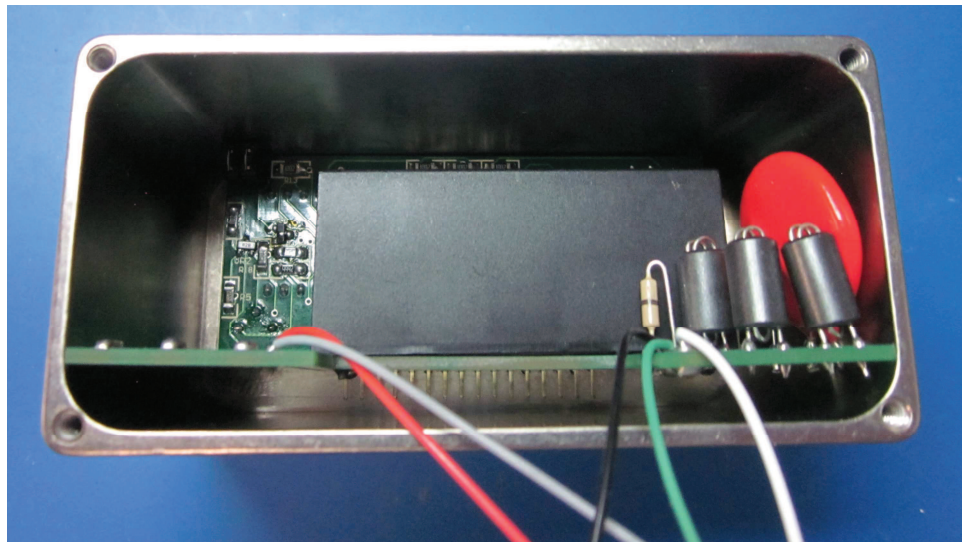

Figure 19: Assembly in housing rear
- 4.4.1 Install the electronic assembly into the enclosure as shown below in **Figures 19 and 20**.